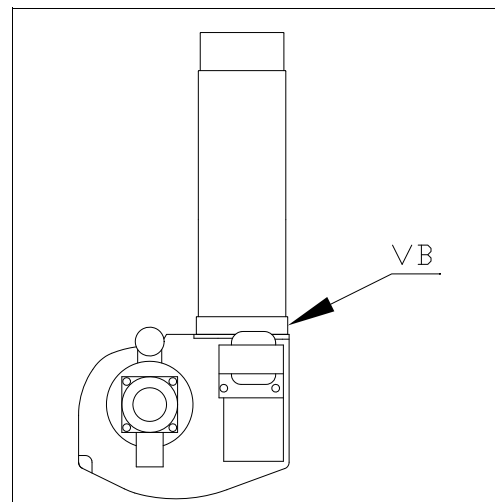

Fig. 3
- 2 Slide out the blast tube by unscrewing the four fastening screws VB (Fig. 3).
- 3 Fasten the sliding flange supplied with the burner to the cooking surface, over the previously made 100mm hole (see point 1), as shown in Fig. 3. Remember to insert the gasket supplied between the flange and the cooking surface.
- 5 Fit the blast tube into the sliding flange and secure it using the three fastening screws, so that it protrudes 30mm into the oven. (Fig. 3)
- 6 Fit the burner to the lower part of the blast tube, making sure the reference tooth is correctly aligned on the casing of the burner, and then secure it by retightening the four screws VB (Fig. 3).